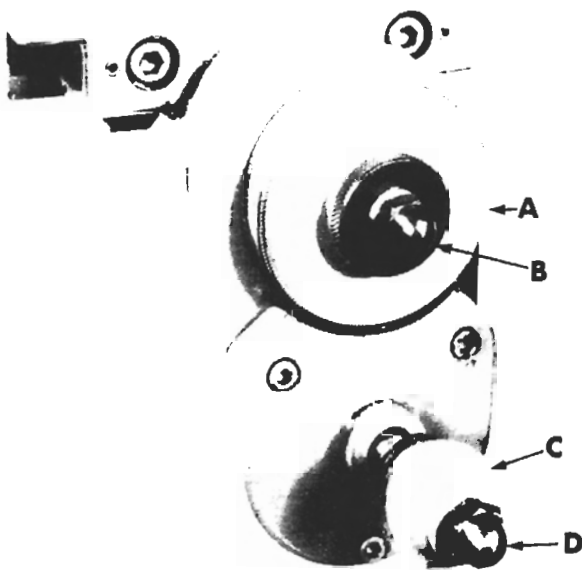

Figure 43
1. Remove acorn nut (B, fig. 43) and pull off dial (A) and bushing.
1. Remove acorn nut (D, fig. 43), crank (C), washer and key from shaft.